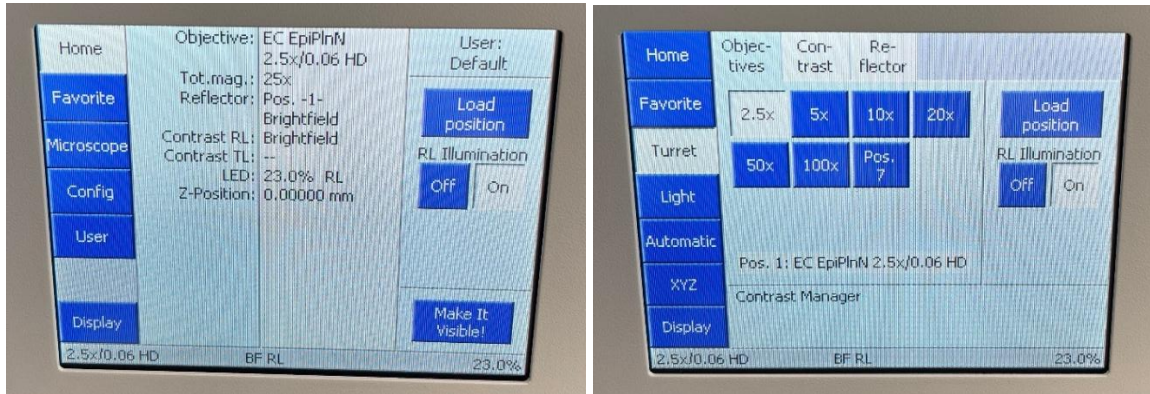

Figure 4. Magnification Adjustment on the Microscope Monitor
3. Ensure the microscope is set to the lowest magnification (2.5X). If adjustment is needed, change the magnification from the monitor to the right of the microscope by selecting "Microscope" (Figure 4, left) and then the turret for 2.5X (Figure 4, right).